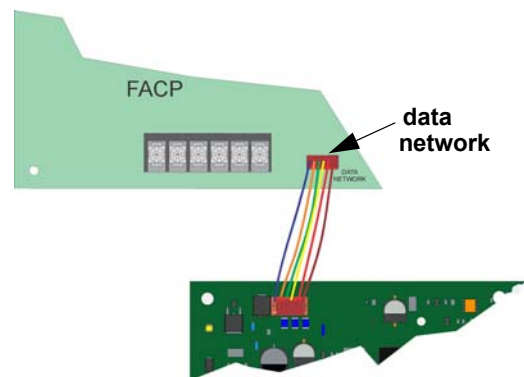

Figure 2 TR-NIC to Panel Connection
2. Use the 6-pin cable to connect one end of the cable to the FACP pin connector labeled, “Data Network” and connect the other end of the cable to the TR-NIC Card P3-connector. Refer to Figure 2.